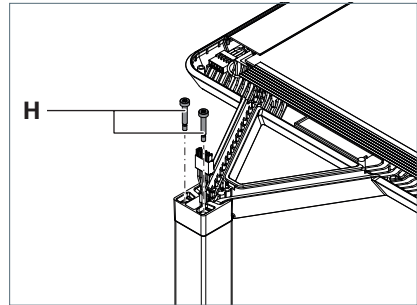

Fig. 4: Fixing the luminaire head in place.
- Tighten the two adjusting screws **H** until the screw heads are flush with the adapter, see Fig. 4.